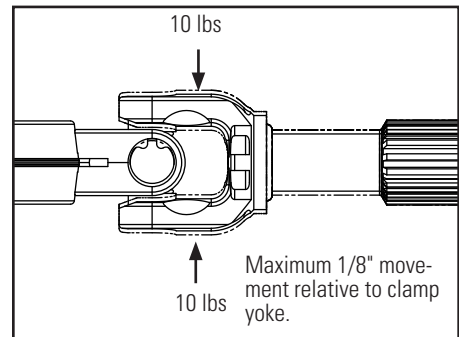

Figure 6 - Maximum Movement
7. Maximum allowable movement of the weld yoke relative to the clamp yoke is 0.125". If the yoke movement is greater than 0.125", either the cross shaft assembly should be replaced (see TRW Service Procedure #COL-151) with kit # SK000198 (non-greasable) or SK000275 (greasable), or intermediate column should be replaced. **See Figure 6.**